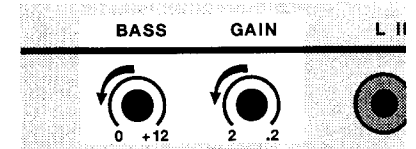

Figure 8: Bass & Gain Controls
1. Start with **Bass** control at "0" and **Gain** control at "2". (See Figure 8).